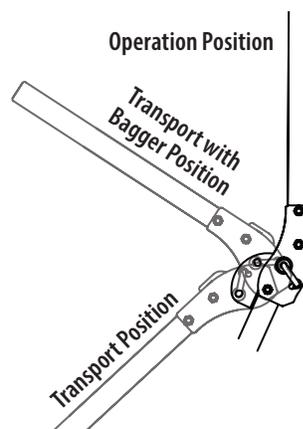

Figure 23
Refer to Figure 23 and the following descriptions and uses for the three (3) positions for the ROPS.
2. Move the ROPS into the desired position. The three positions are TRANSPORT position, TRANSPORT WITH BAGGER position and OPERATION position (Figure 23 on page 15).